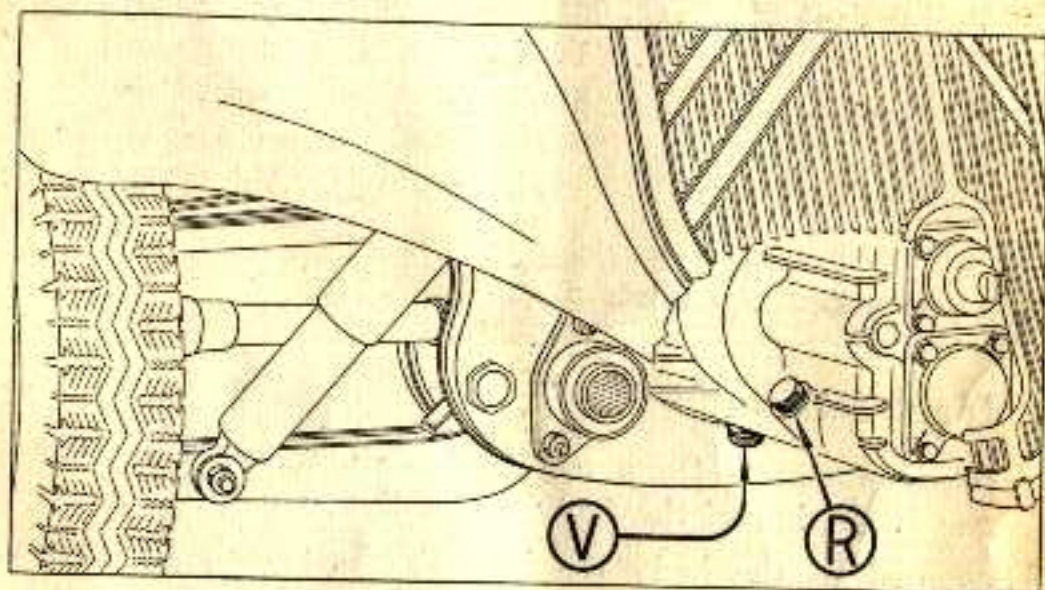

Fig. 16.
Check the oil level in the gearbox ; remove the Filler Plug R (fig. 16).
- a. — drain and refill the gearbox (Drain Plug V, fig. 16).